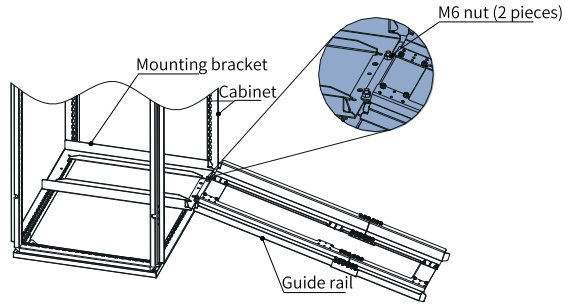

Figure 5-9 Mounting the guide rail assembly to the cabinet
b. Align the two round holes on the front end of the guide rail assembly with the screws of the mounting bracket, and lock them with two M6 nuts to mount the guide rail assembly to the cabinet, as shown in "Figure 5-9 " on page 96 .